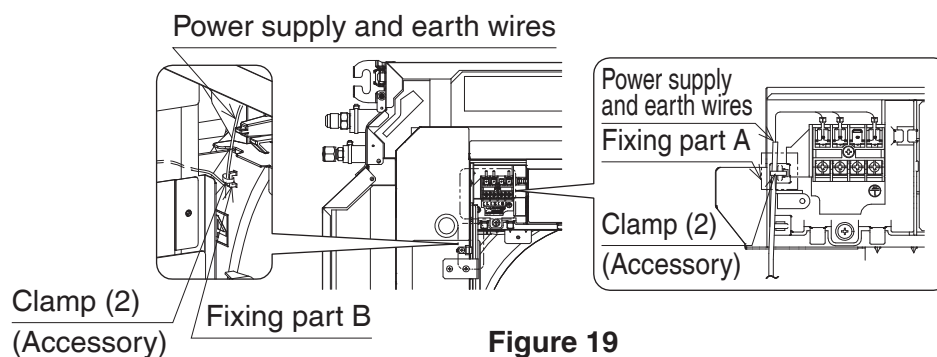

Figure 19
4. Bundling the power supply wires (black and white) and the earth wire (green or yellow), secure them to fixing part A inside the indoor unit control box and fixing part B on the bell-mouth using clamps (2). (Refer to **Figure 19**.) However, if using a harness sold separately, secure them together to fixing part B.